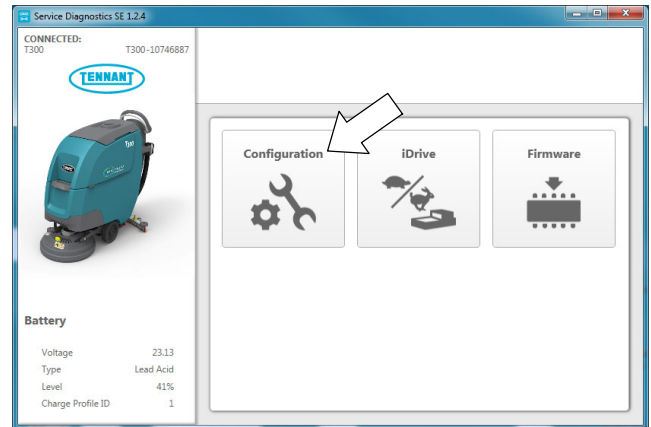

Fig. 42
4. From the Home Page, select the Configuration button (Figure 42).